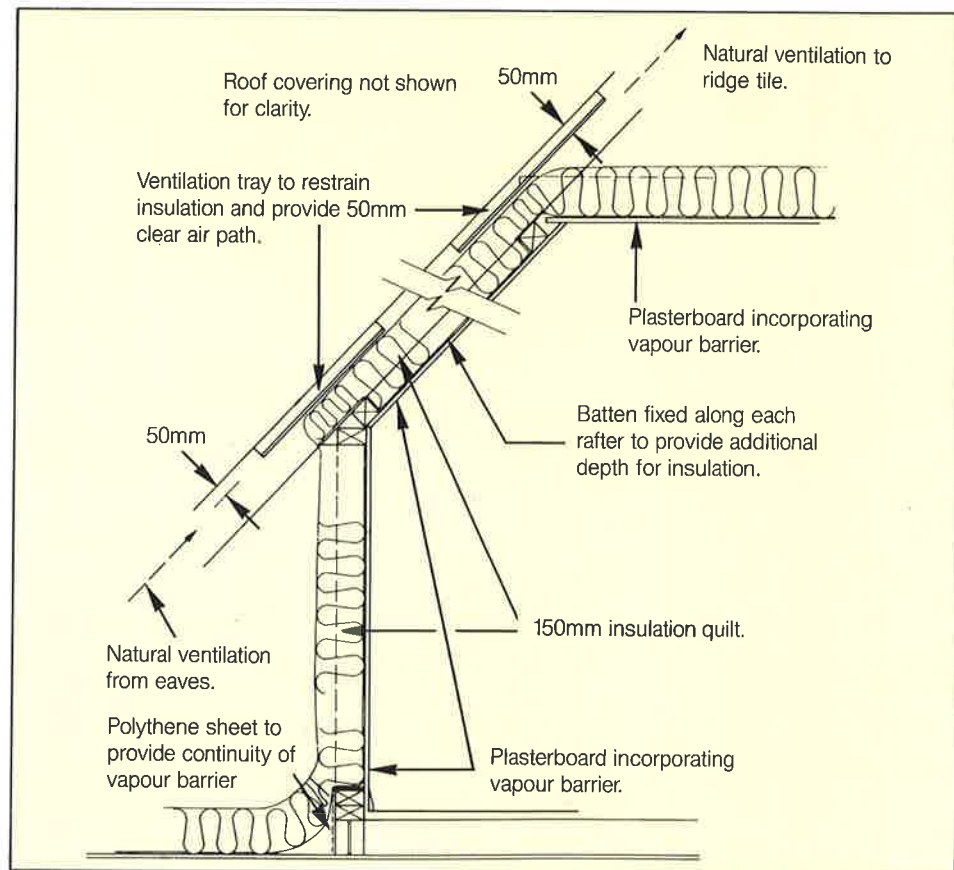

Figure 3: Room-in-the-roof construction.
- To batten out the rafters along their length to a depth of 200mm (see Figure 3)